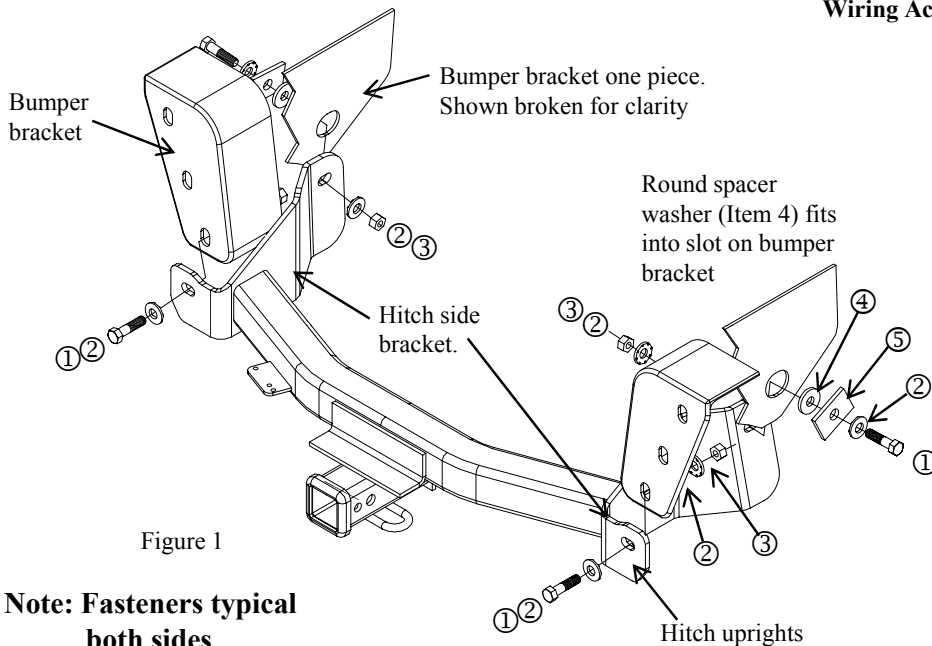

Figure 1
1. Raise hitch into position as shown in Figure 1. Use fasteners to attach the hitch uprights to the bumper bracket.